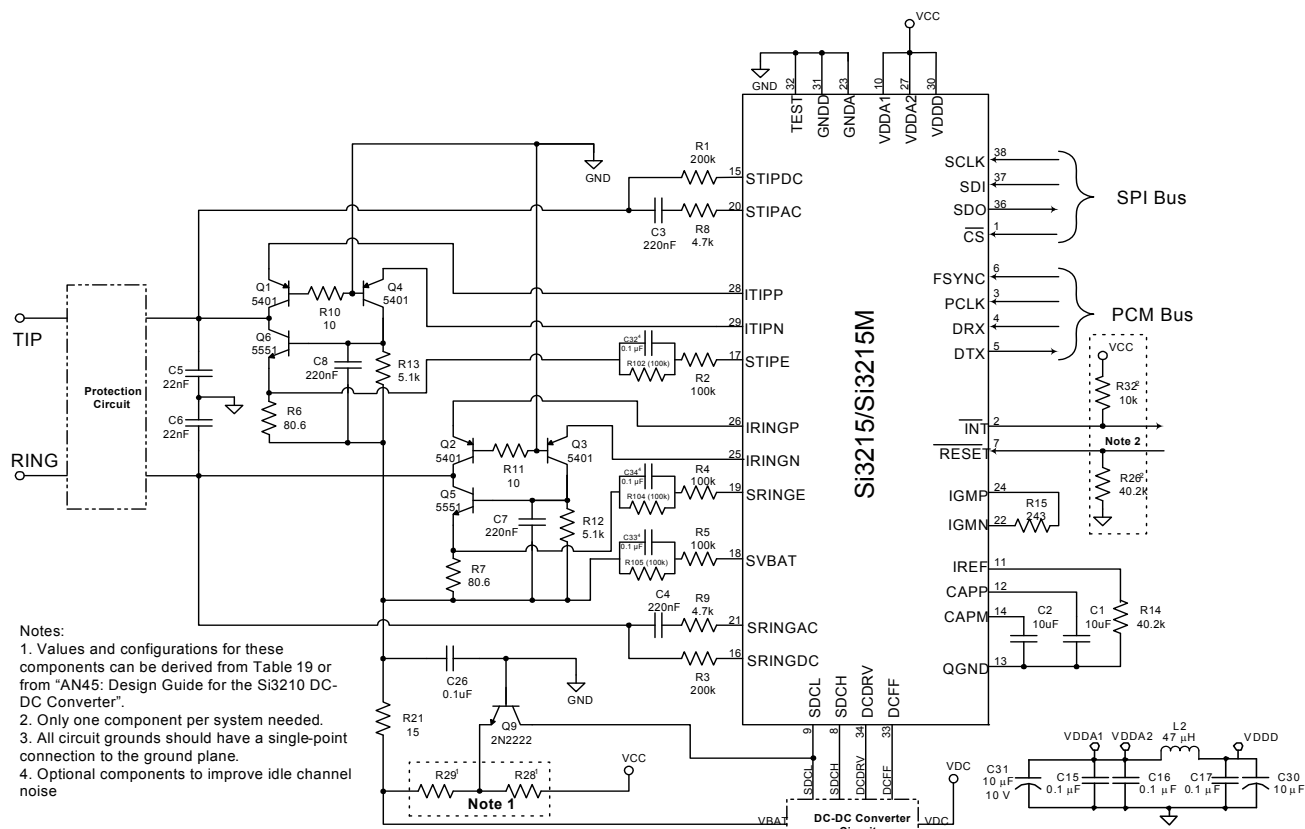

Figure 12. Si3215/Si3215M Typical Application Circuit Using Discrete Components
The ProSLIC® is a single, low-voltage CMOS device that provides all the SLIC, codec, and signal generation functions needed for a complete analog telephone interface. The ProSLIC performs all battery, overvoltage, ringing, supervision, codec, hybrid, and test (BORSCHT) functions. Unlike most monolithic SLICs, the Si3215 does not require externally-supplied high-voltage battery supplies. Instead, it generates all necessary battery voltages from a positive dc supply using its own dc-dc converter controller. Two fully-programmable tone generators can produce DTMF tones, phase-continuous FSK (caller ID) signaling, and call progress tones. The Si3201 linefeed interface IC performs all high-voltage functions. As an option, the Si3201 can also be replaced with low-cost discrete components as shown in the typical application circuit in Figure 12.
- External resistors R8 and R9 are changed from 470 Ω to 4.7 k Ω . See the typical application circuit in Figure 12.